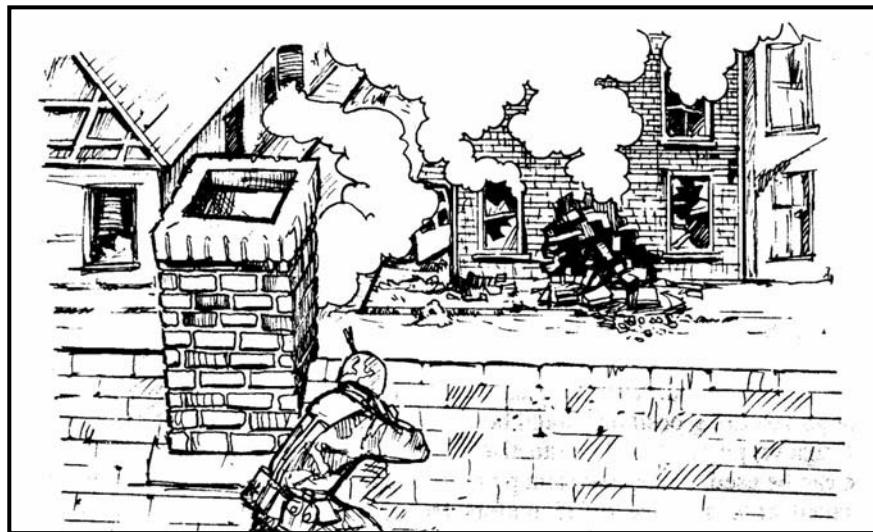

Figure 7-6. Firing over rooftops.
- a. The requirement for long-range observation can dictate that positions be occupied that are high above ground. Figure 7-6 shows a soldier firing over rooftops, exposing only the parts of his body necessary to engage a target.